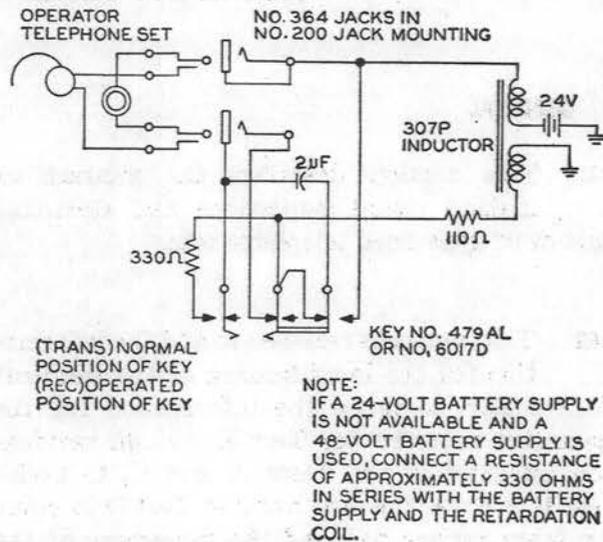

Fig. 1 - Testing Circuit for Use Where Patching Cord Test Set Is Not Available
2.02 Patching cord test set per SD-90430-01, SD-21502-01, SD-21338-01, SD-95665-01, ES-239451, or equivalent testing equipment made up locally as shown in Fig. 1.